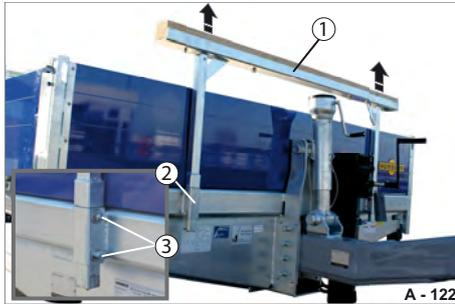

Fig. 174 Unlocking the support frame
- ▶ Release the bolt connection (Fig. 174/3) on both post pockets (Fig. 174/2).
- ▶ Pull the support frame (Fig. 174/1) slowly and simultaneously out of the post pockets.